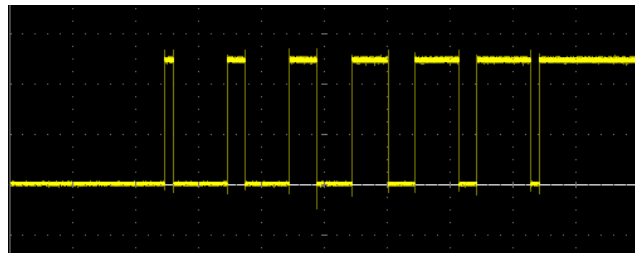

Figure 2-5 Typical PWM Soft Start cycle
- **Soft Start** - As shown in **Figure 2-5**, a soft start increases the PWM duty cycle gradually from 0% up to the configured steady-state value. This feature is useful in preventing premature burnout of devices (such as incandescent bulbs) caused by too rapid heating on startup.